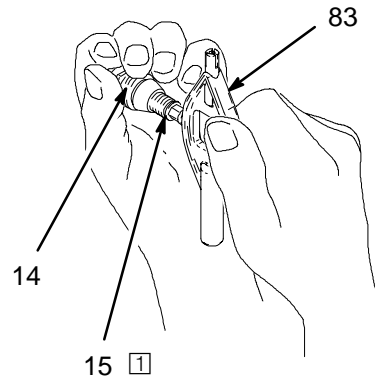

Fig. 27
4. Unscrew the resistor stud (15) from the fluid nozzle (14) with the multi-tool (83). See Fig. 27.
3. Install the resistor stud (15) in the fluid nozzle (14) with the multi-tool (83). Tighten the resistor stud to 10 in-lb (1.13 N•m). See Fig. 27.